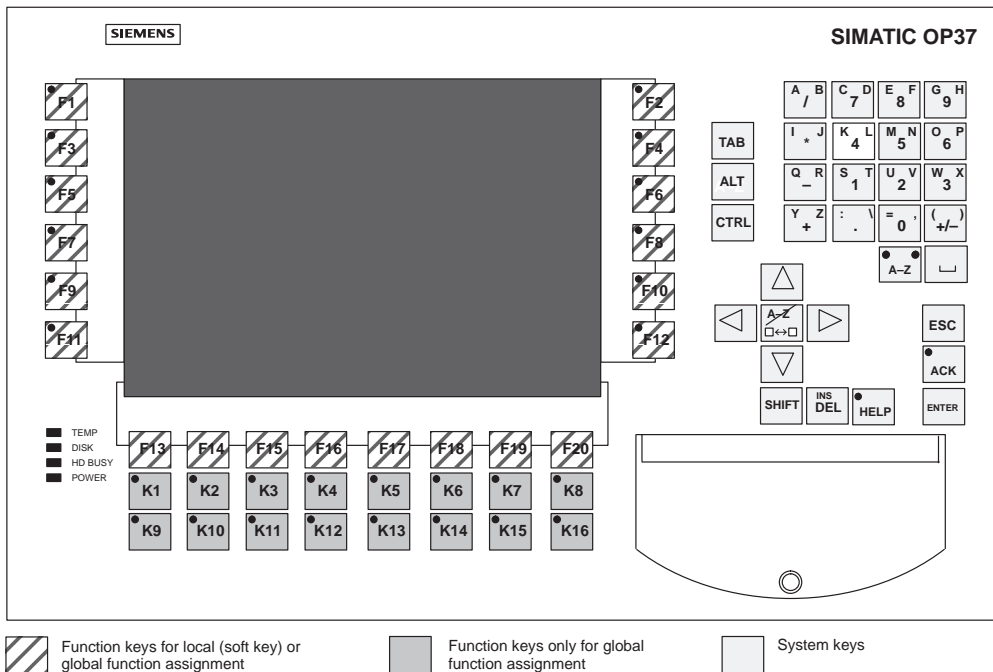

Figure 3-3 Arrangement of keypads on the OP37
- on the OP37 → K1 to K16 and F1 to F20 (Figure 3-3).
- on the OP37 → F1 to F20 (Figure 3-3).